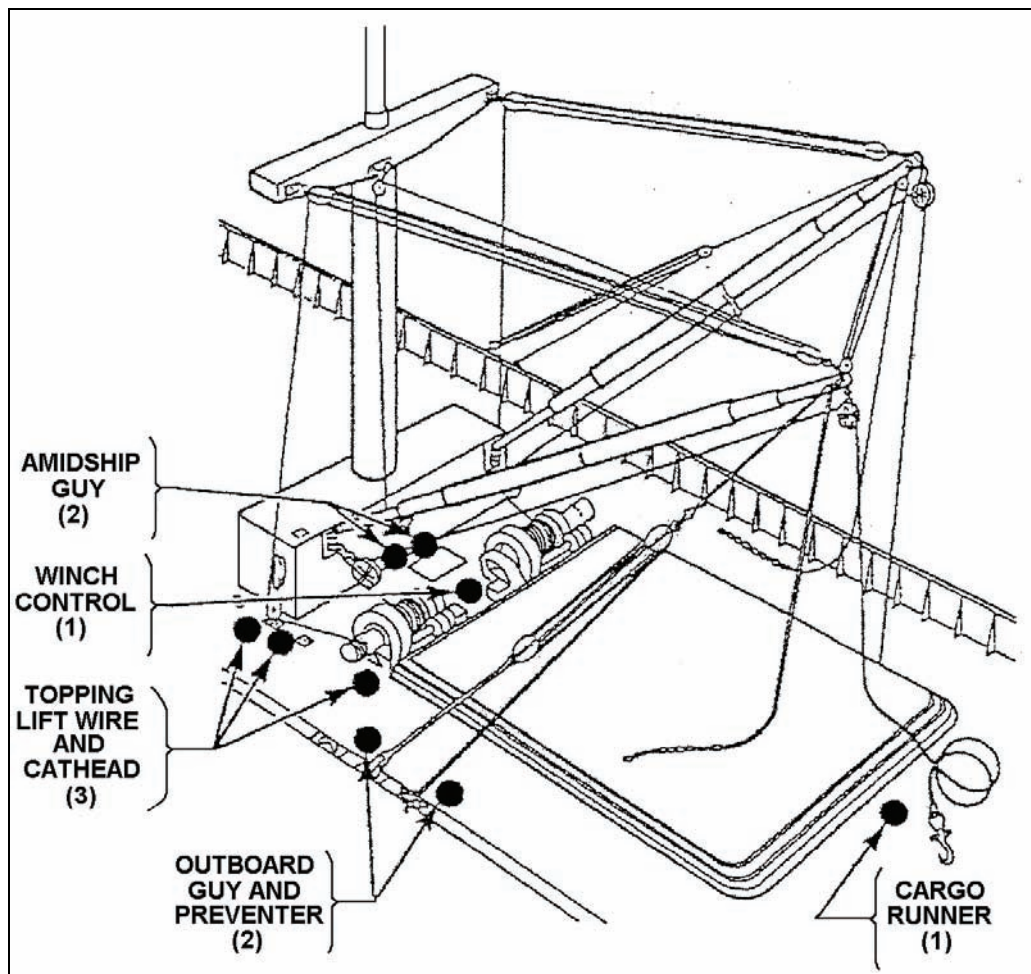

Figure 3-25. Lowering Standard Booms Equipped With Multiple Topping Lift
17. Execute the procedures required to lower standard booms equipped with multiple topping lift (see Figure 3-25).